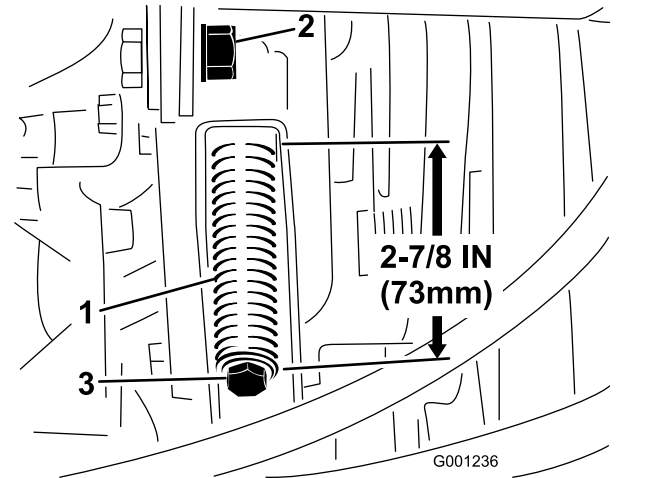

Figure 73
3. Loosen the tensioning-rod jam nut (Figure 73).
4. Use a 1/2-inch wrench to tighten or loosen the belt-tensioning spring (Figure 73). Adjust spring to a length of 73 mm (2-7/8 inch).
4. Using a 1/2-inch wrench, loosen the belt-tensioning spring (Figure 73) all the way.
6. Install the new PTO belt and tension the pulley spring to 73 mm (2-7/8 inches) in length (Figure 73).
7. Tighten the jam nut (Figure 73) and close the hood.